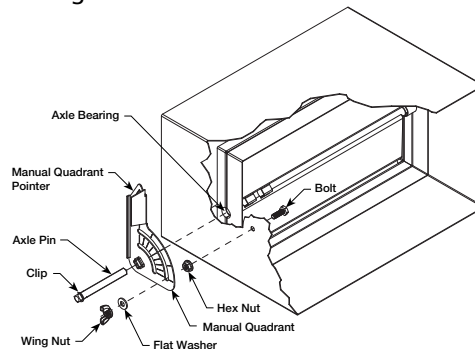

Figure 3 — Manual Quadrant Assembly
2. Slide the axle pin through the manual quadrant. Align the quadrant pointer with the blade and insert the pin into the damper blade lances. Refer to Figure 3.